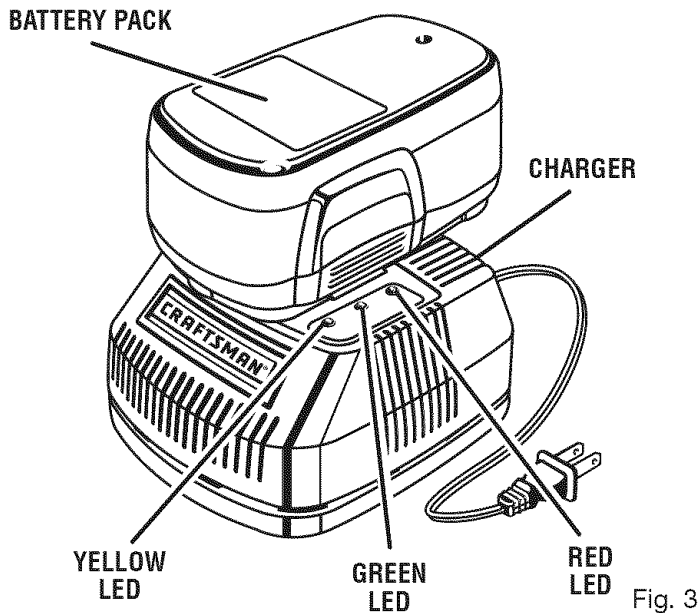

Fig. 3
- Place the battery pack in the charger aligning raised rib on the battery pack with the groove in the charger. *See Figure 3.*